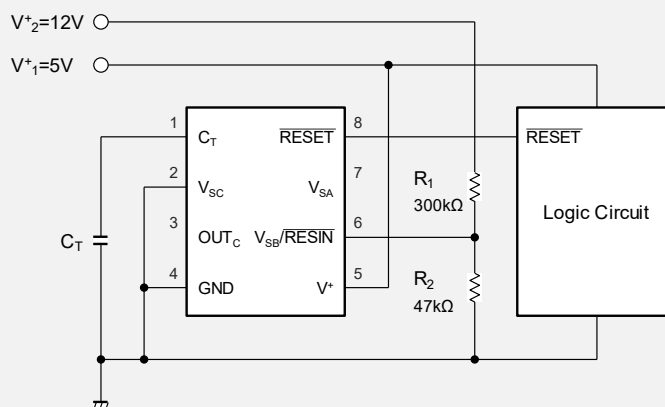

Fig. 5 5V, 12V power supply monitor (dual power supply monitor : $V^*_1 = 5V$, $V^*_2 = 12V$)
- V^*_2 detection voltage (falling, rising) is set by R_1 and R_2 according to following formula. In case of resistor value in Fig.5, the detection voltage (falling) is about 9.0 V and the detection voltage (rising) is about 9.2 V.